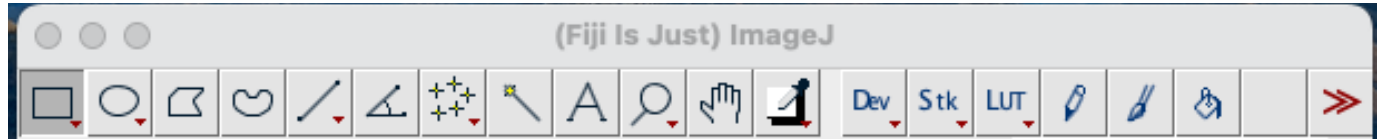

Figure 1-3 ImageJ 1.53t Toolbar
3. Select “Straight Line Selections” tool from the ImageJ toolbar (See Figure 1-3 )